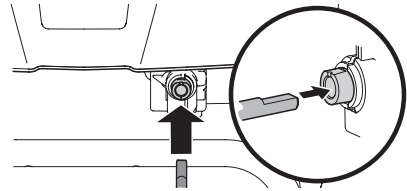

Figure 25
- Models with Electric Chute Control - Insert other end of flex shaft into chute control rod coupling under handle panel. Make sure to line up flat end of rod and flat end of coupler. You may need to rotate rod around until these two surfaces line up (Figure 25 inset).